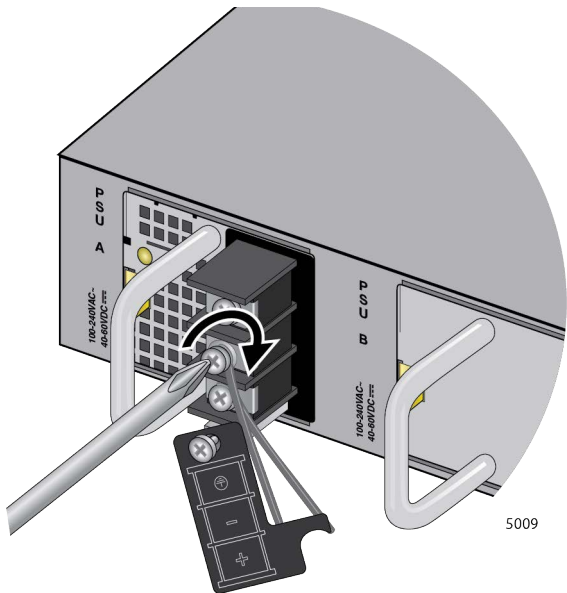

Figure 71. Tightening the Screw for the Negative (-)
4. Wind the power wire and tighten the screw. Refer to Figure 71.